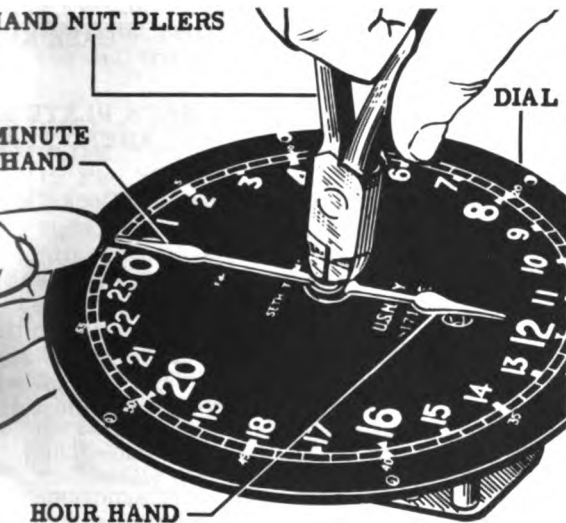

Figure 27
- Remove the hand nut with the hand nut pliers (Tool No. 3A) as shown in Fig. 27. Tool No. 3A has a hard rubber insert to enable the round hand nut to be turned without slipping. Remove the minute and hour hands with the hand removers with felt pads, Tool No. 2A.